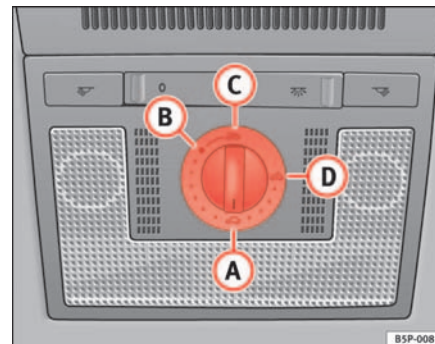

Fig. 72 Detail of the sunroof: rotary button for sliding/tilting sunroof
- Turn the rotary button to position **A** ⇒ fig. 72 ⇒ .